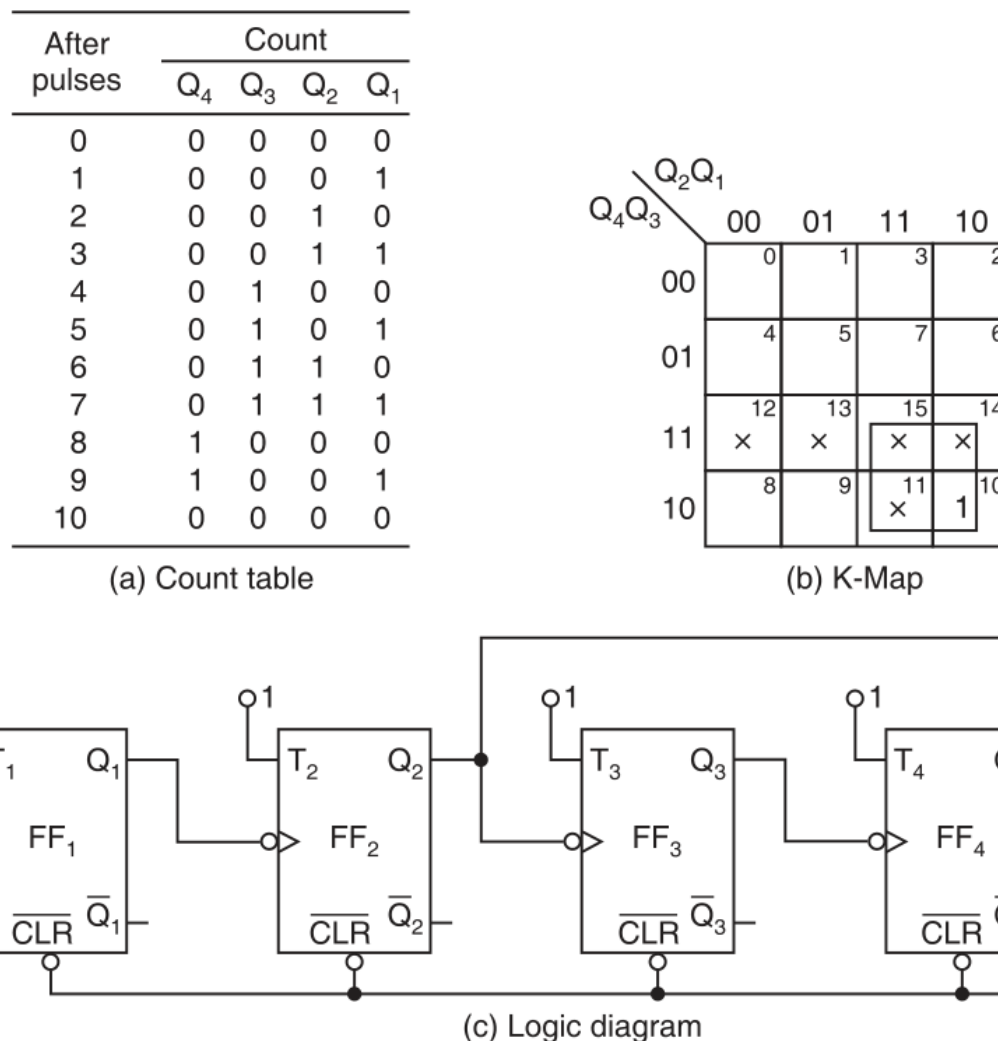

Figure 12.8 Asynchronous mod-10 counter using T flip-flops.
2. The Modulo-10 (Decade / BCD) Ripple Counter (Kumar, p. 669, Figure 12.8)